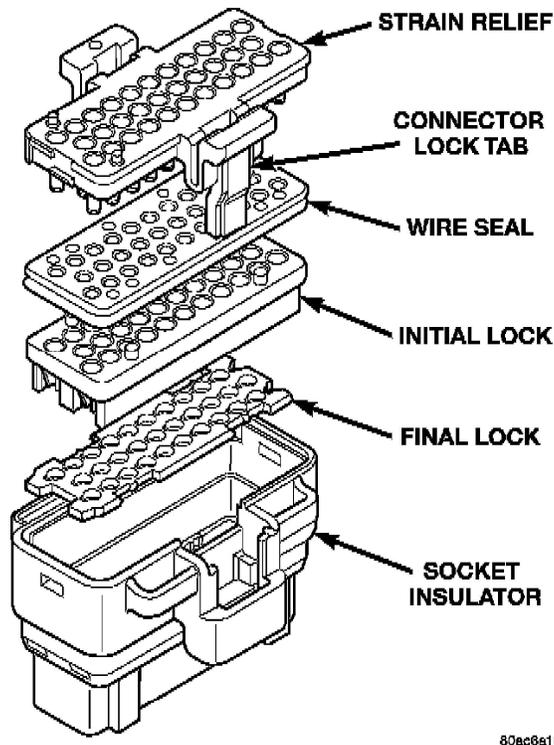
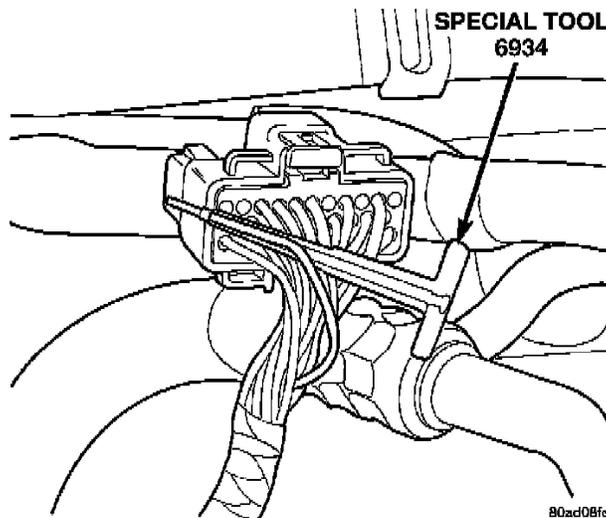

FIGURE 1 - Powertrain Control Module Insulator
FIGURE 4 - Removing Terminal From Insulator
4. Inspect the connector lock tab on the side of the insulator (Figure 1) for damage and replace the insulator if damaged is identified.
8. Grasp the wire and tool 6934 and slowly remove the wire and terminal from the insulator (Figure 4). Then, remove the strain relief and wire seal (Figure 1).
9. Inspect the initial and final locks of the insulator (Figure 1) for damage. Replace the insulator if there are any signs of damage.